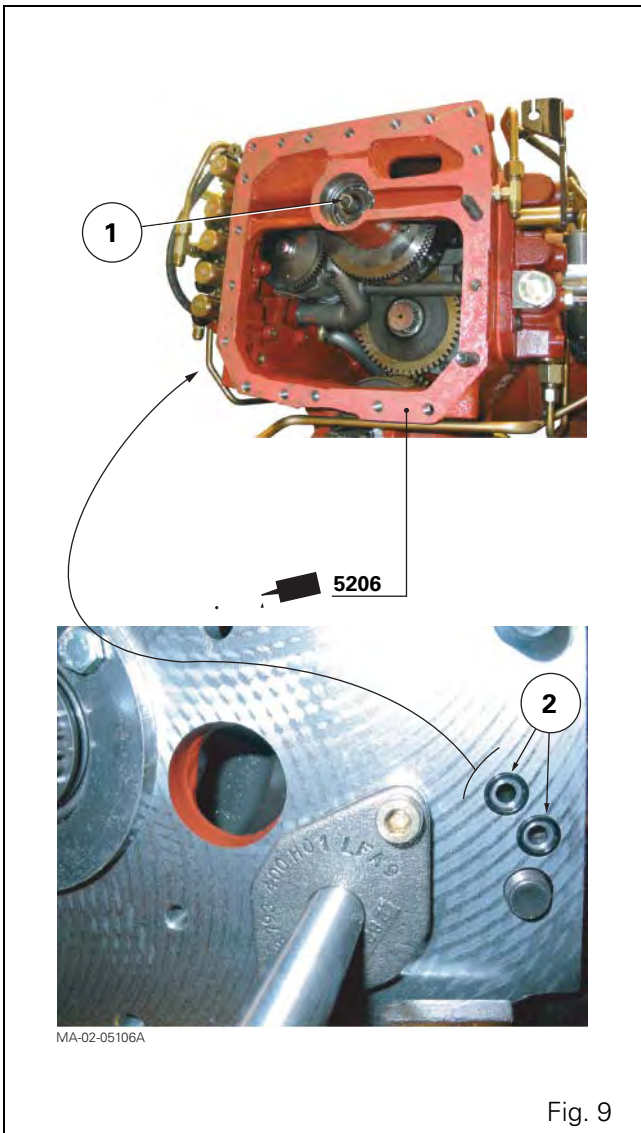

Fig. 9
29. Position the spring (1) in the PTO clutch (Fig. 9).
31. Replace the "O" rings (2) (Fig. 9).